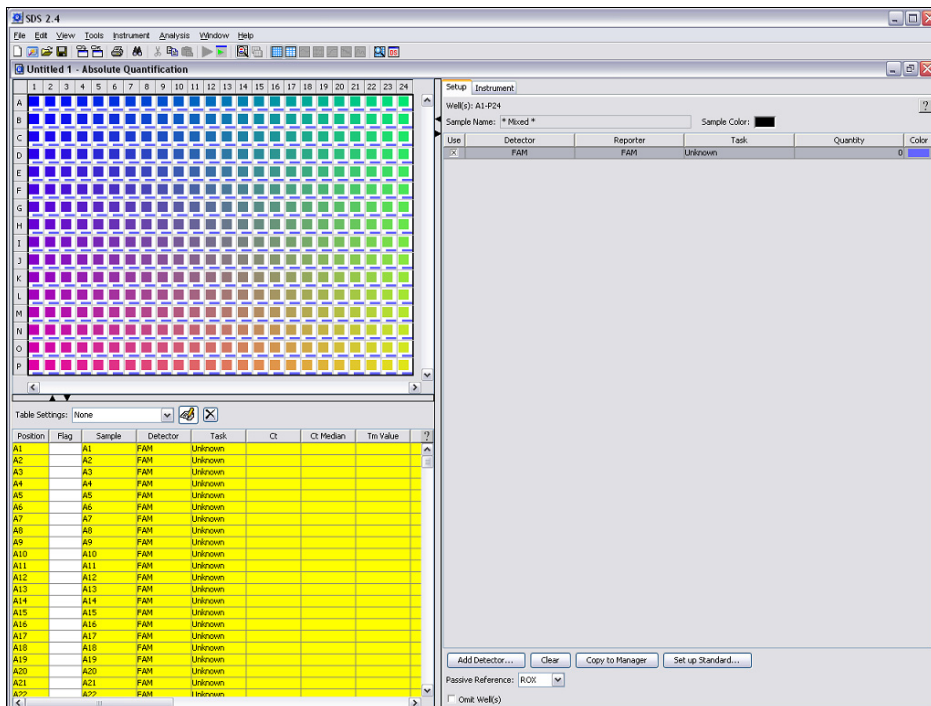

Figure 2. Selecting FAM™ as detector.
- Click the square button in the upper left corner of the 384-well layout panel (between the letter "A" and "1") to select all wells. Once selected, the 384-well table will be highlighted in yellow. Click the box next to "FAM". This selects "FAM" as the detector for all wells (Figure 2).